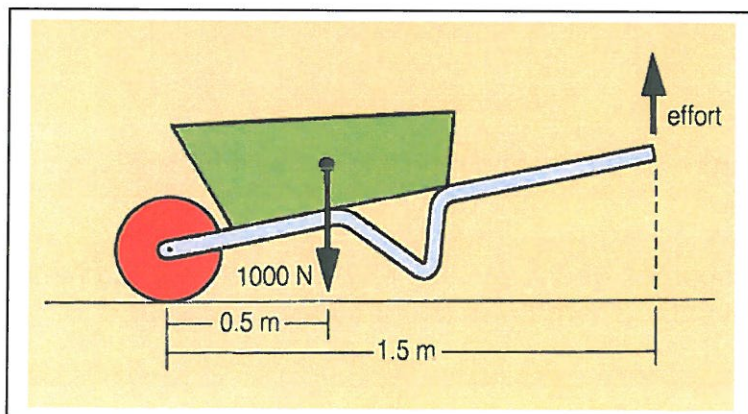

Figure 5
- 4.1 Figure 5 shows a wheelbarrow.